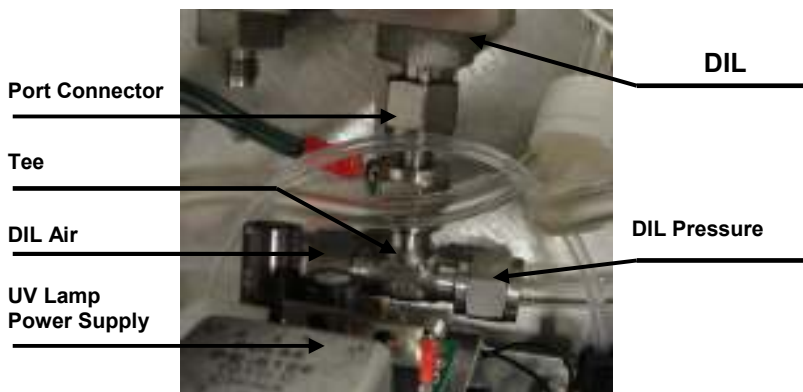
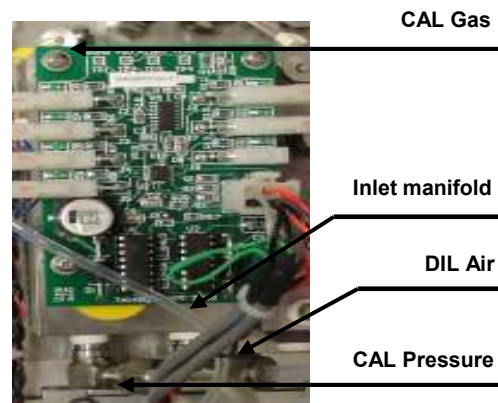
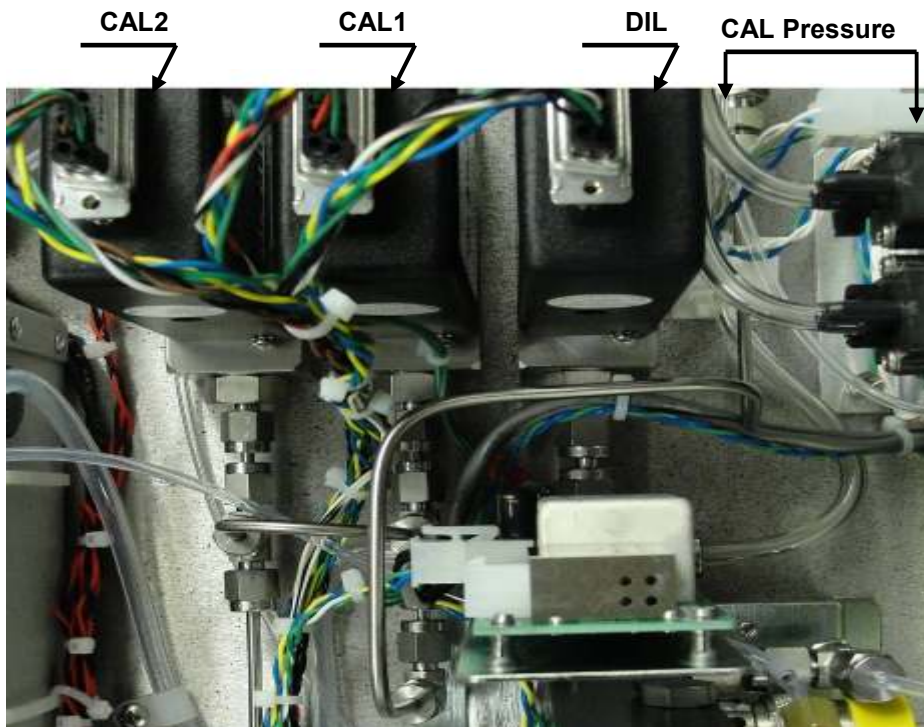

Figure 3
Figure 4
Figure 5
3. Locate the MFC's. In Figure 1 notice the placement of the Dilution MFC (DIL MFC) and the Cal Gas MFC (CAL1 MFC). Also notice the MFC plug labels DIL1, CAL1, and the unused CAL2. As seen in Figure 1, remove the CAL Gas line from the CAL1 MFC, and from the top of the inlet manifold shown in figure 4. Remove the CAL Gas line completely, as a new one is included with KIT000340. Remove the cable plug from the DIL MFC. Remove the DIL Pressure line from the stainless steel tee. Remove the port connector on the stainless steel tee, from the inlet of the DIL MFC. Remove the DIL Air line from the inlet manifold located on the instrument rear panel, seen in Figure 4. Remove the entire DIL Air line and the stainless steel tee from the unit as a new line and stainless steel tee are included with KIT000340. Remove the line out at the front of the DIL MFC, from the analyzer completely, as a new one is included with KIT000340. Now remove the two screws located on the underside of the chassis, from the DIL MFC.
4. Install the new DIL Air line and stainless steel tee and connector, provided with KIT000340 to the DIL Air MFC as seen in Figure 3. Install the other end of the DIL air line, to the inlet manifold shown in Figure 4. Position the DIL MFC to the new chassis location indicated in Figure 1. Fasten the DIL MFC in place using the previously removed screws. Install the DIL Pressure line to the remaining port on the tee. Be careful not to damage the electronics on the surrounding UV lamp power supply.
5. As seen in Figure 4, install the new CAL Gas line included in KIT000340, to the inlet manifold. Remove the CAL Pressure line from the inlet manifold in, and cap the now open port on the inlet manifold with the 1/4" stainless steel cap included in KIT000340.
6. The CAL2 MFC will come with fittings attached. Where the DIL MFC used to be, install the CAL2 MFC, and secure in place with the screws provided. Connect the new CAL Gas line to the Cal gas port on the inlet manifold seen in Figure 4. Connect the fittings on the new CAL2 MFC to the CAL1 MFC as shown in Figure 5. Connect the new bent stainless steel end of the CAL2 MFC to the CAL Pressure line. The CAL Pressure line will now be longer than necessary so you may loop the excess line if needed. Connect the CAL2 Cable Plug to the new CAL2 MFC. At the front of the CAL1 and CAL2 MFC's, connect the CAL Gas out lines as shown in Figure 6. Install the new DIL Air out line as shown in Figure 6.